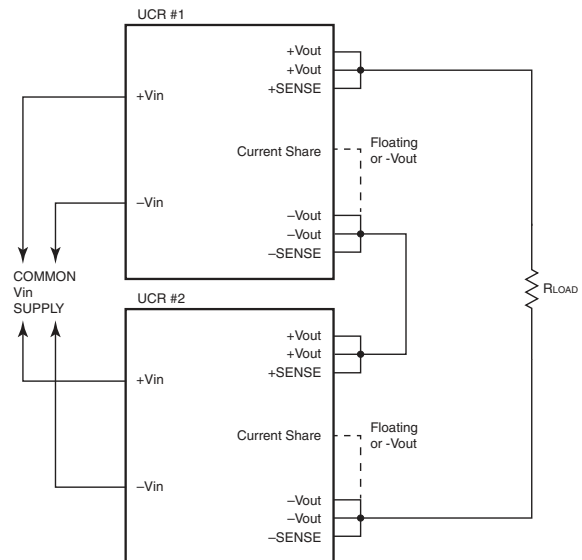

Figure 11. Series Connections
**Using series connections (see figure 11)**
Figure 11 illustrates a typical configuration for two URC converters connected in series. The Current Share inputs should be left floating or tied to -Vout. When connected in series the maximum load regulation remains constant as a percentage of the series output voltage. The total percentage of regulation does not change over the series string however the regulation amounts (in millivolts) accumulate in each converter.